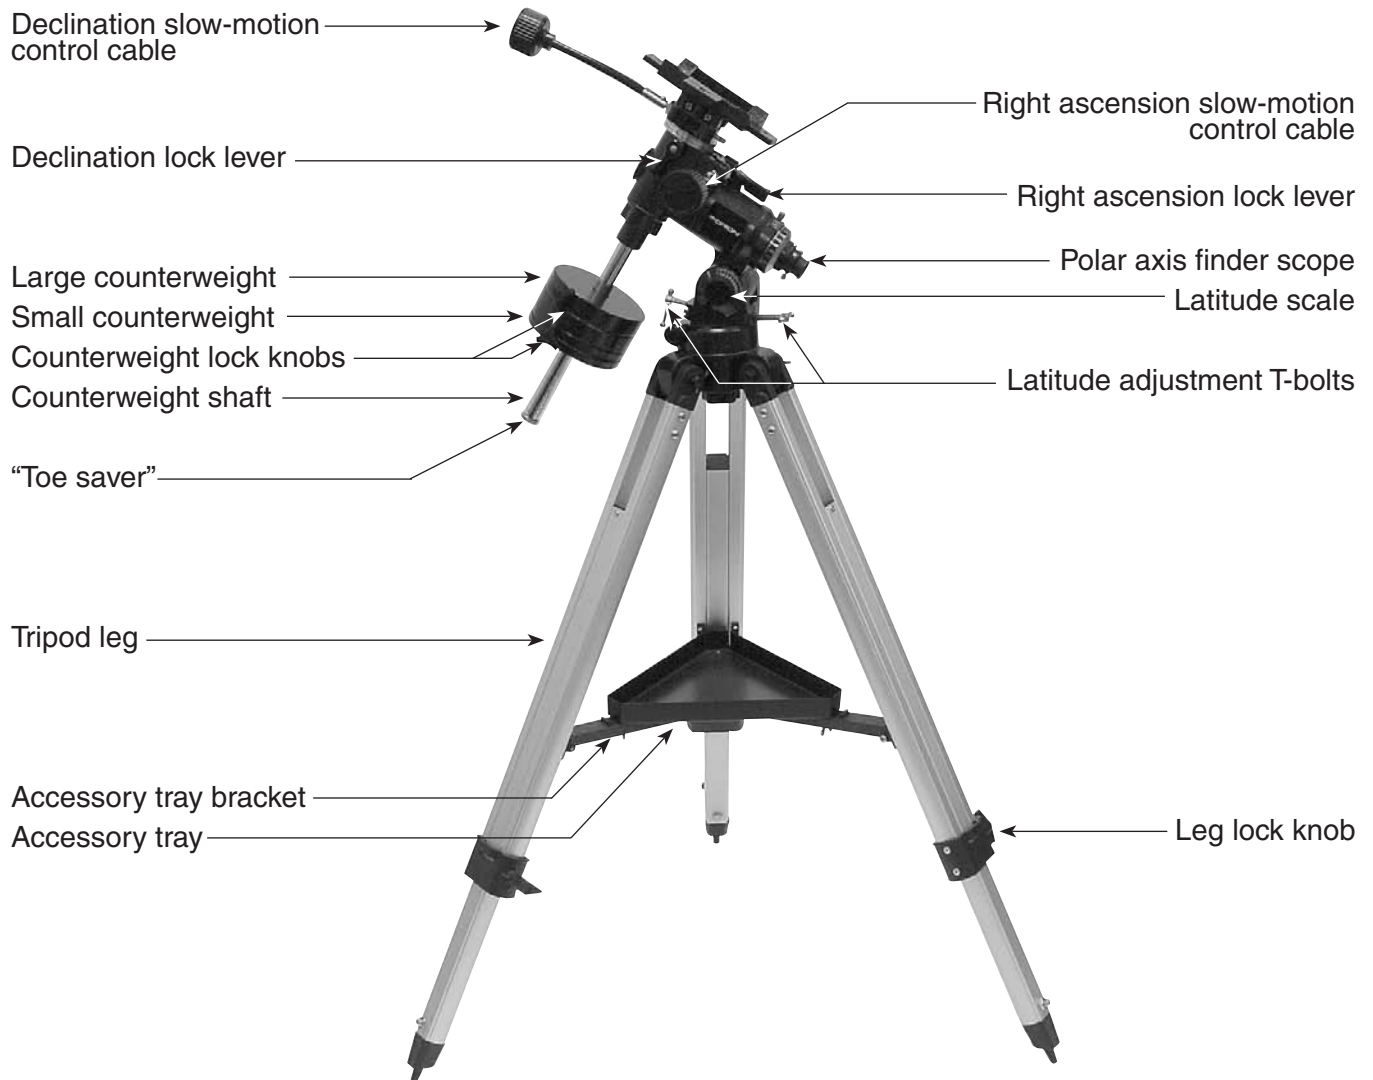

Figure 1. The AstroView Equatorial Mount.
Assembling the mount for the first time should take about 20 minutes. No tools are needed, other than the ones provided. All screws should be tightened securely to eliminate flexing and wobbling, but be careful not to over-tighten or the threads may strip. Refer to Figure 1 during the assembly process.
5. Orient the equatorial mount as it appears in Figure 1, at a latitude of about 40°, i.e., so the pointer next to the latitude scale is pointing to the line at “40”. To do this, loosen one of the latitude adjustment T-bolts and then tighten the other latitude adjustment T-bolt until the pointer and the “40” line up (Figure 2). The declination (Dec.) and right ascension (R.A.) axes many need re-positioning (rotation) as well. Be sure to loosen the RA and Dec. lock levers before doing this. Retighten them once the equatorial mount is properly oriented.